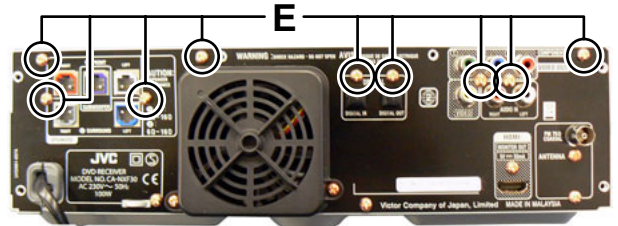

Fig.9
- (4) Remove the nine screws **E** attaching the Top chassis. (see Fig.9)